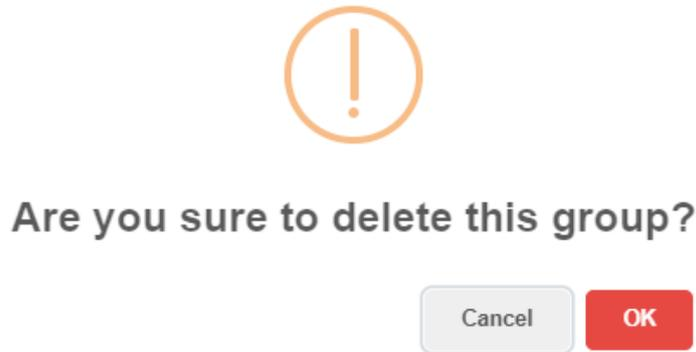

Figure 5-7
4) Click "🗑️" button, it will pop-up tip message as shown in Figure 5-7;